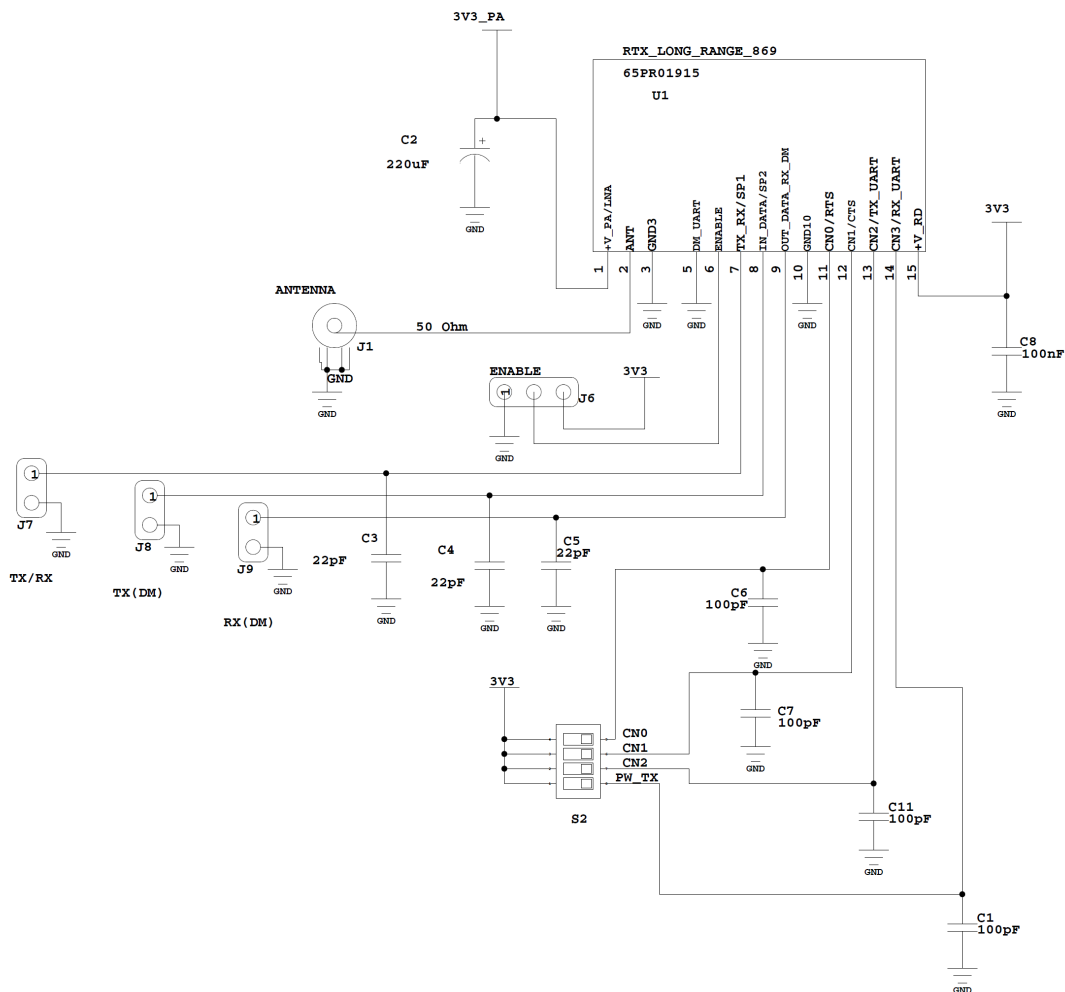
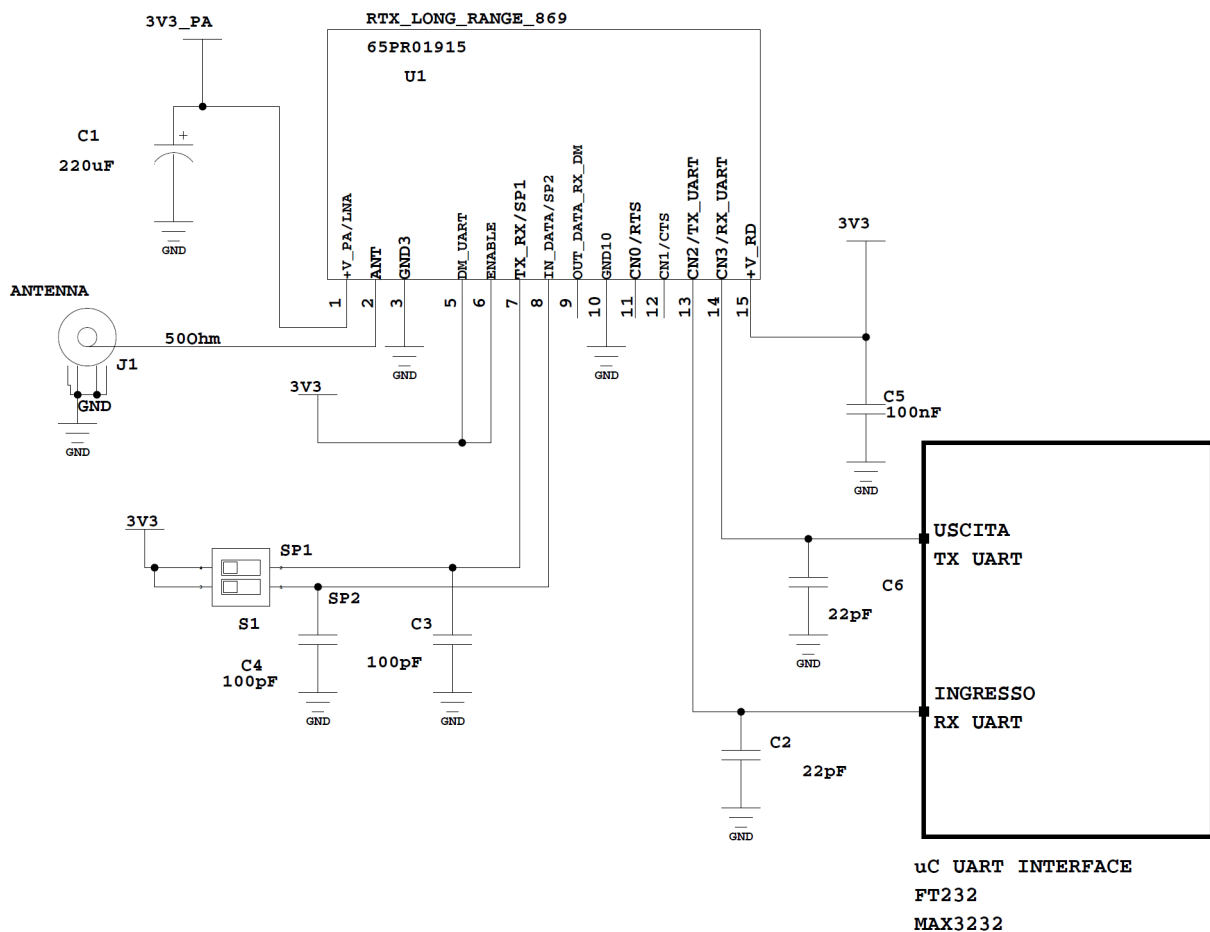
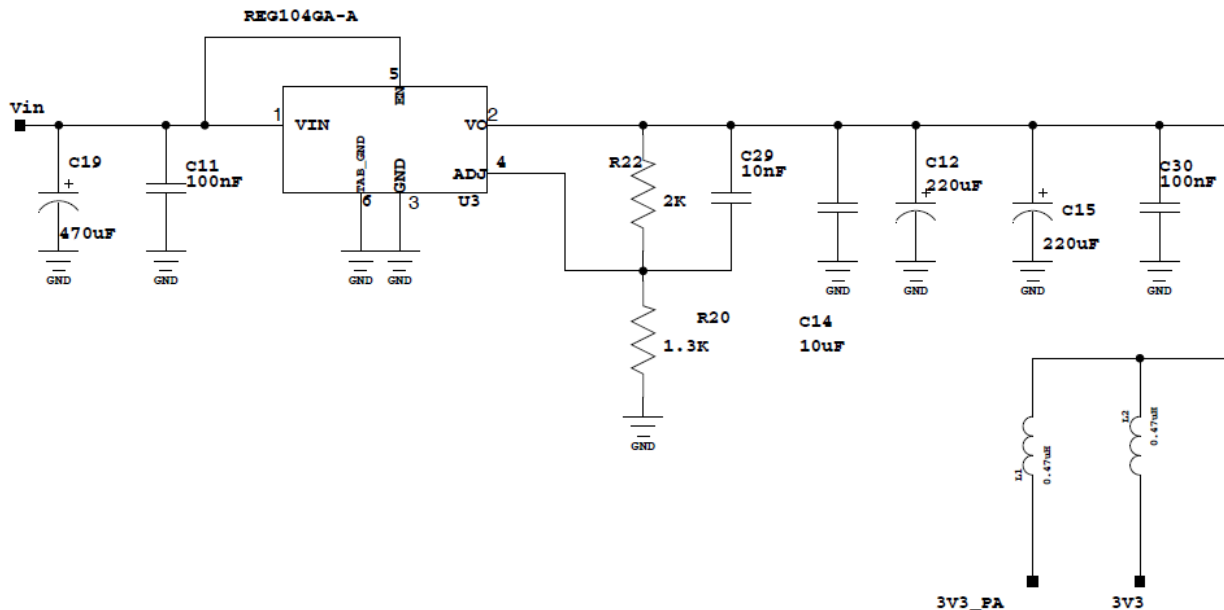

Figure 6
Figure 7
Figure 8 Stable power supply 3V-1A DC-DC
- Transmission is activated by setting high pin 7 (TX_RX), the data will be transmitted through the connector J8 (see Figure 6);
- Reception is activated by setting low pin 7 (TX_RX), the data will flow on connector J9 (see Figure 6) once it will be available.
See Figure 7 for the circuitual schematic, the dip-switch S1 select the data rate of the UART interface; TX, RX and radio module settings are defined by the serial asynchronous communication from the pin 13 and 14 of the module.
1. It must be supplied with a power source at very low voltage protection against shortcircuits. Maximum voltage variations allowed between 2.1 ÷ 3.6V. However it's highly suggested to maintain the voltage more stable as possible between the values declared on the Table 1 with a proper fast transient response power supply as per Figure 8.
Use capacitor of 22÷100pF in proximity between signal connections and ground. The value of the capacitor vary depending of the pin, see Figure 6 , Figure 7 and Figure 8 for more informations.